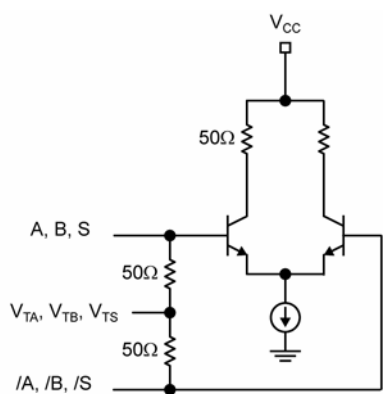

Figure 1a. Simplified Differential Input Stage
- Due to the internal termination (see Figure 1a) the input current depends on the applied voltages at A, /A and V_{TA} inputs, the B, /B and V_{TB} inputs or the S, /S and V_{TS} inputs. Do not apply a combination of voltages that causes the input current to exceed the maximum limit.